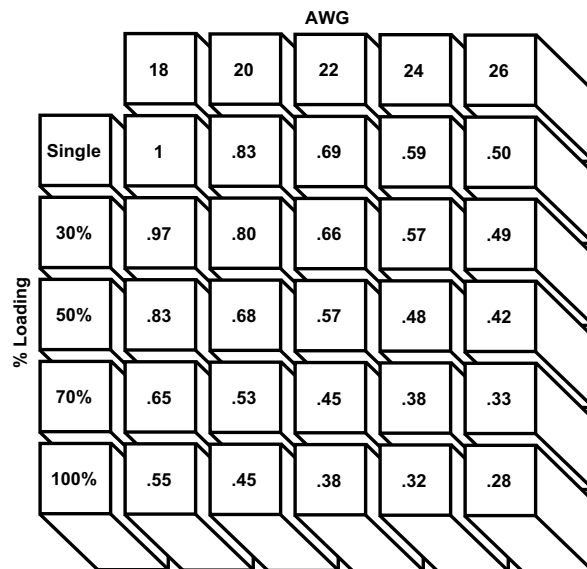

**Figure 2**
- Next are rating factors; a table of multipliers to account for connector loading and for smaller wire sizes (See figure 2). The designer first determines the base current for the ambient conditions of the application; then multiplies this base current by the rating factors to find the current level for the application's loading factor and wire size.
- Figure 2, the rating factor for 50% loading and 20 AWG [0.6mm2] wire is 0.68.